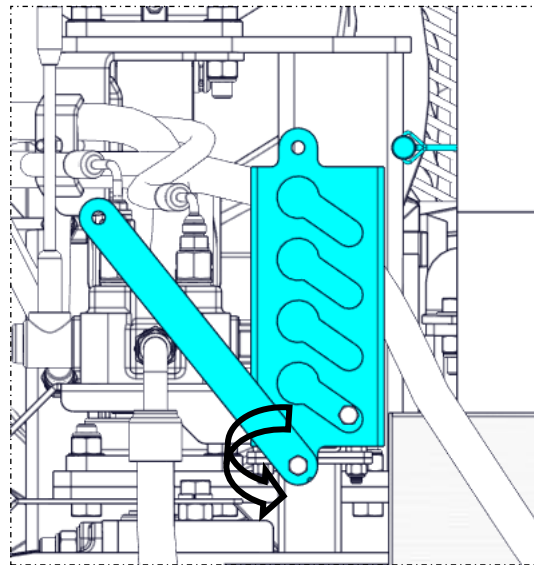

Figure 4.27
- B) Rotate the lock plate counter clockwise (Figure 4.27). If the lock plate is too tight, loosen the bolt at the bottom of the lock plate.